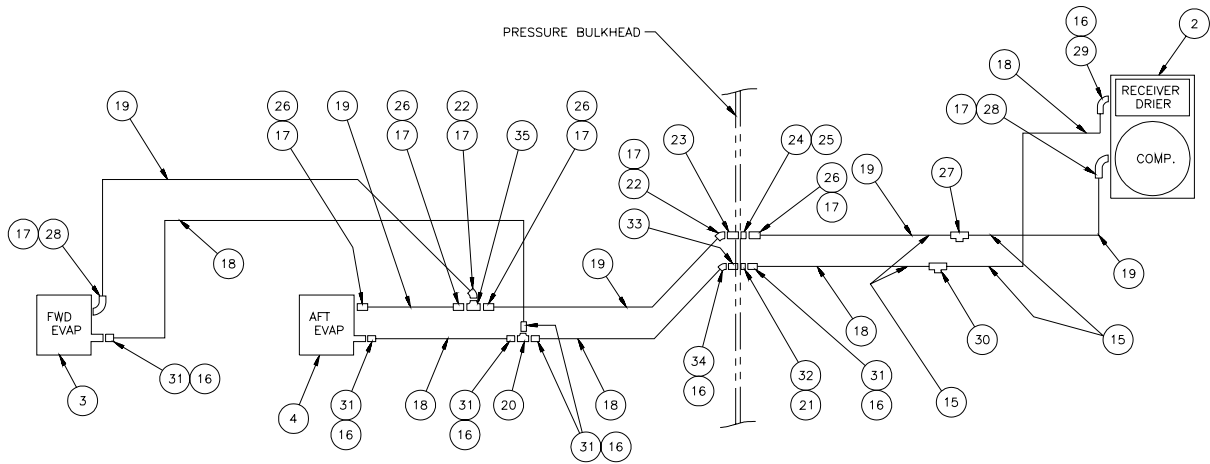

Figure 1. Plumbing System
3. PLUMBING CHECK PROCEDURES (REF. IPL Fig. 1)